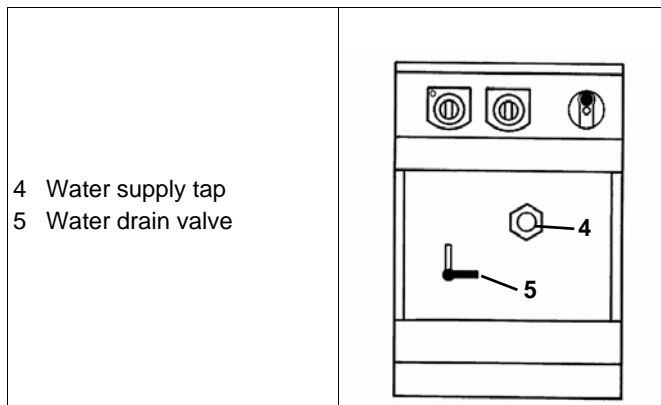

Fig.10 Front view
- ⇒ Turn on main gas tap (1/ Fig.10).
- ⇒ Water loss in the trough can be replaced by turning on the tap (4/ Fig.10).
- ⇒ Drain the water from the trough by opening the water outlet valve (5/Fig.10) (turn the handle anti-clockwise into the vertical position).